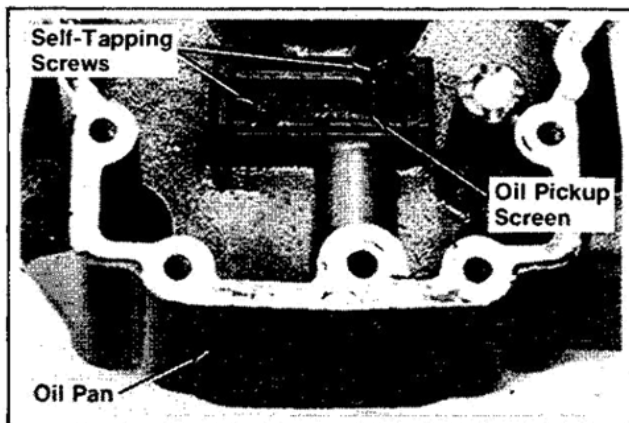

Figure 11-23. Installing Oil Pickup Screen.
1. Install the oil pickup screen and self-tapping screws to oil pan. Refer to Figure 11-23.